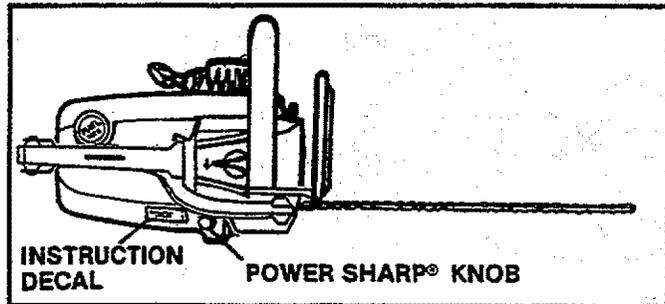

Figure 18
5. Press the Power Sharp® Knob down until you feel the sharpening stone lightly contacting the chain. Figure 18.